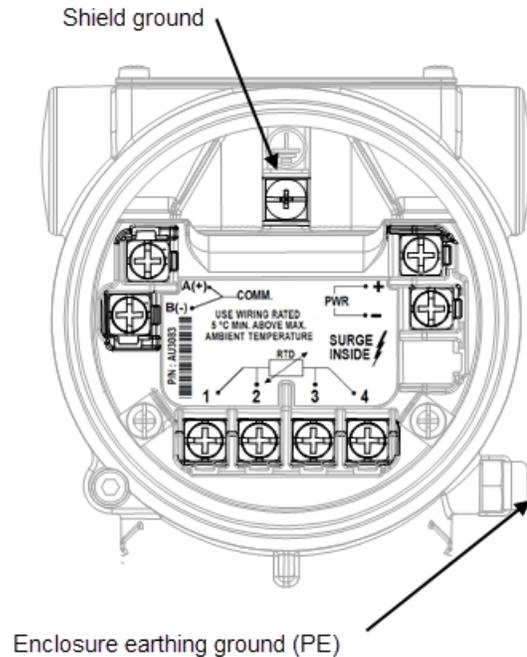

Figure 24: Ground connections
A terminal is available on the transmitter exterior for connection to an earth ground or potential equalization (PE) grid (Figure 24). A connection for attaching wiring shields is located inside of the rear housing cover. For additional field wiring requirements see the following publications:
For correct operation of the suppression system a high-current path to earth ground or potential equalization (PE) grid is required (Figure 24). Section 3.6.1, *Protective conductor and grounding*, includes additional information on grounding the transmitter.
**IMPORTANT NOTE:** The grounding (PE) should be kept as short as possible with a minimum wire size of 12 AWG.